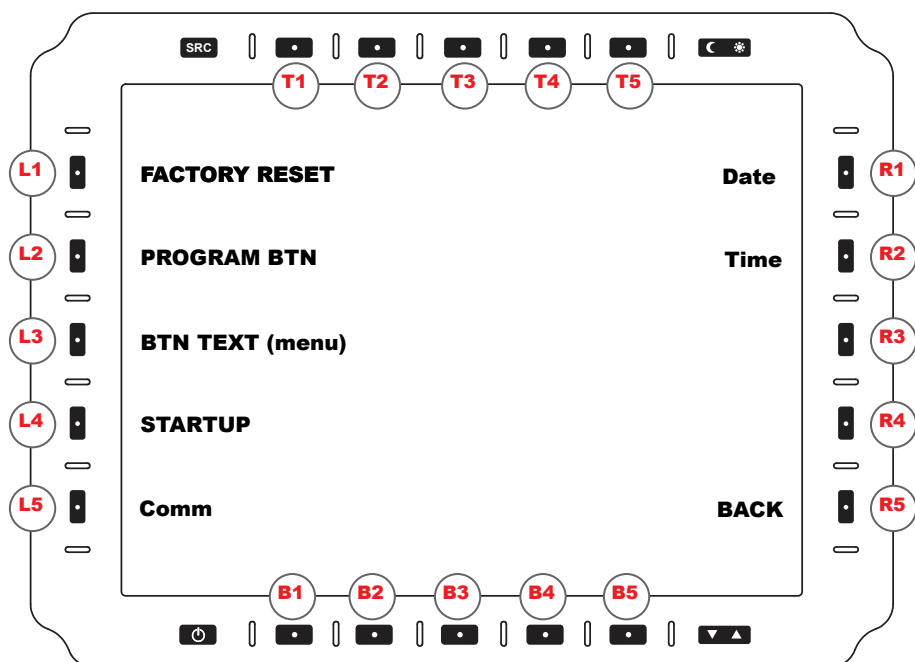
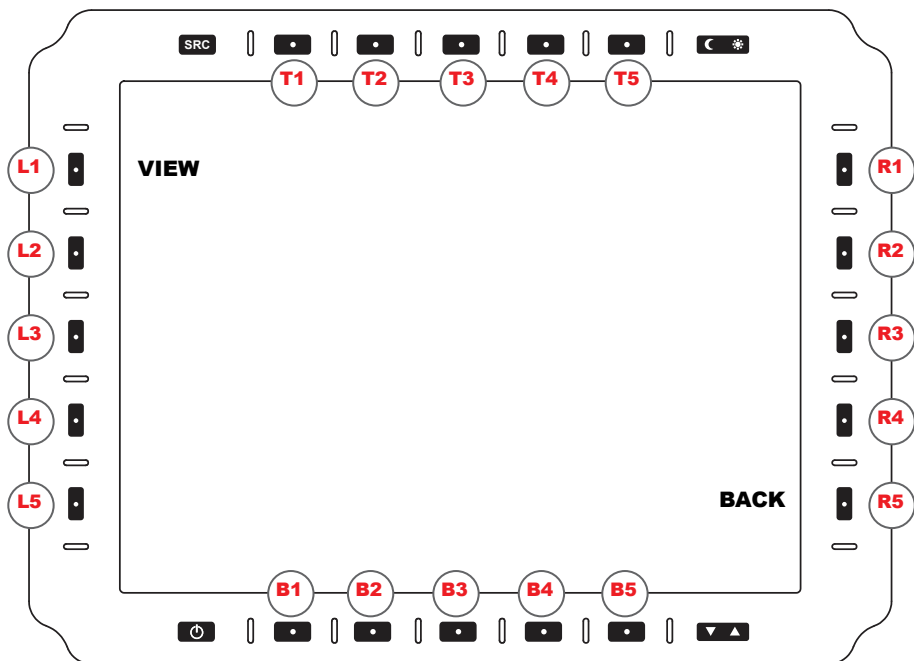
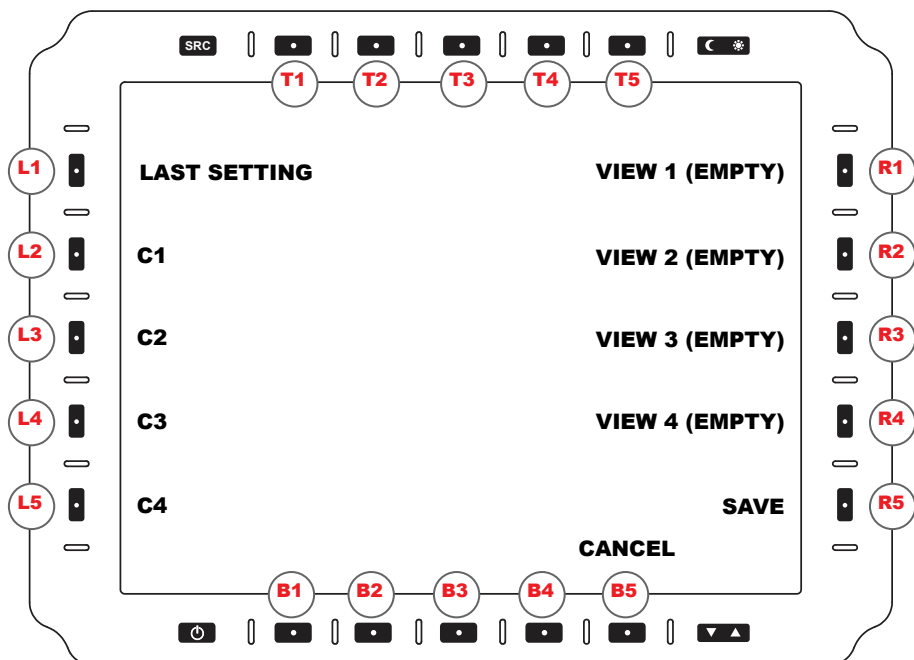
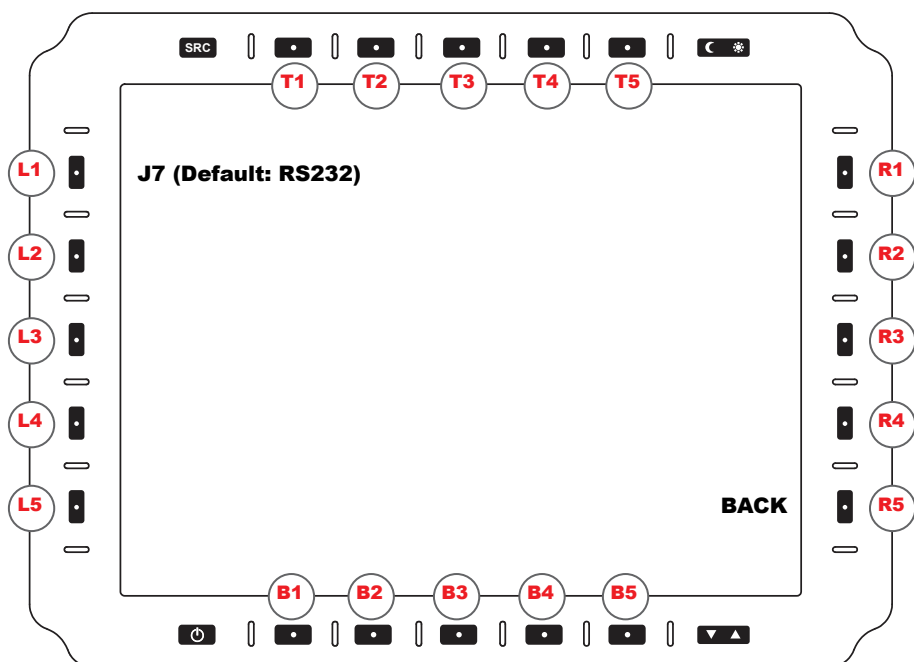

Figure 23
Figure 26
Figure 27
Figure 28
From the Main Menu (Figure 8), the Utility Menu (Figure 23) is accessed through R1.
**STARTUP (L4).** Opens Startup Menu (Figure 26).
**COMM (L5).** Opens Communications Options Menu (Figure 28).
**CANCEL (R5).** Returns to Utility Menu (Figure 23) without saving changes.
**SAVE (R4).** Saves the DATE and returns to Utility Menu (Figure 23).
The Startup Menu (Figure 26) is accessed through softkey L4 in the Utility Menu screen (Figure 23),
VIEW (L1). Enters View Startup Menu (Figure 27).
BACK (R5). Returns to Utility Menu (Figure 23).
The View Startup Menu (Figure 27) is accessed through softkey L1 in the Startup Menu screen (Figure 26),
**SAVE (R5).** Saves Selection for Power ON view. Auto-returns to Startup Menu (Figure 26).
**CANCEL (B5).** Cancels entry. Returns to Startup Menu (Figure 26).
The Communications Options Menu (Figure 28) is accessed through softkey L5, COMM in the Utility Menu screen (Figure 23),
BACK (R5). Returns to Start Up (Figure 26).
CANCEL (B5). Cancels entry. Returns to Utility Menu (Figure 23).